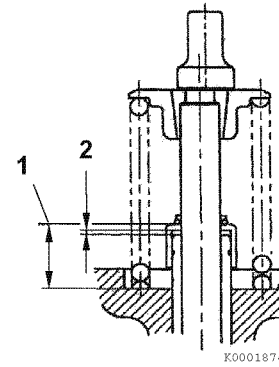

Figure 6-28
2. Measure the distance (1, **Figure 6-28**) from the cylinder head to valve stem seal to ensure proper clearance (2, **Figure 6-28**) between the guide and the seal. See *Intake/Exhaust Valve and Guide on page 6-4*.